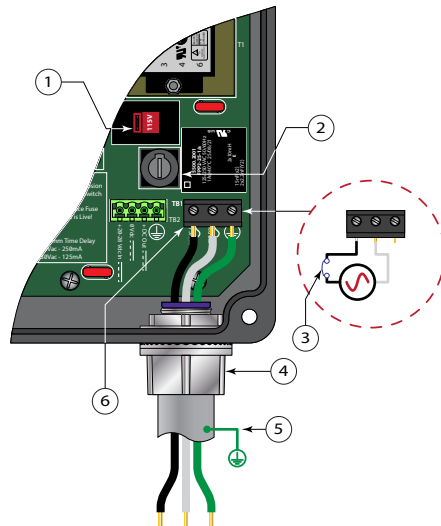
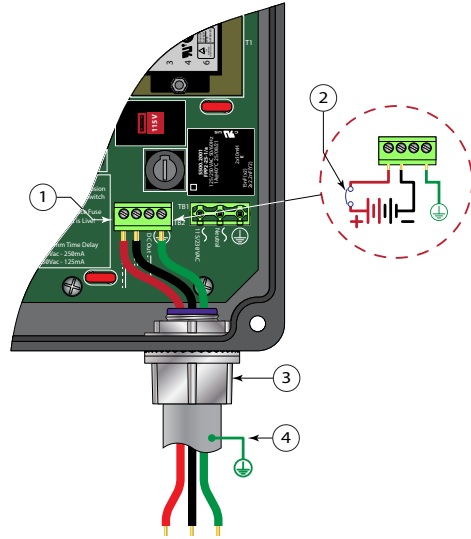

Figure 27: NEMA 4 AC power connections
Figure 28: NEMA 4 DC power connections
- ◇ Through hard conduit. See *Figure 27 on page 29* or *Figure 28 on page 30*.
1. Verify that switch S1, the AC power selection switch, is set to the appropriate line voltage. The RCTN can be set for either 115V AC or 230V AC. See *Figure 27 on page 29*.
3. Connect power to the screw terminal block TB1 in the RCT1000 transmitter using the conduit hole on the right side of the enclosure. Connect 115 or 230V AC, AC neutral and protective ground to the TB1 terminals referenced in *Figure 27*. Do not operate without a protective (earth) ground connection. Install using wiring practices that conform to regional, local and national codes. (For example The National Electrical Code Handbook in the U.S.; Canadian Electric (CE) Code in Canada.)
4. See *Figure 27* for AC connection schematic. Terminal blocks in the RCT1000 accommodate wire gauges up to 14 AWG.
1. Connect a 18...28V DC Class 2 power source as illustrated in the schematic in *Figure 28*. Terminal blocks in the RCT1000 accommodate wire gauges up to 14 AWG.